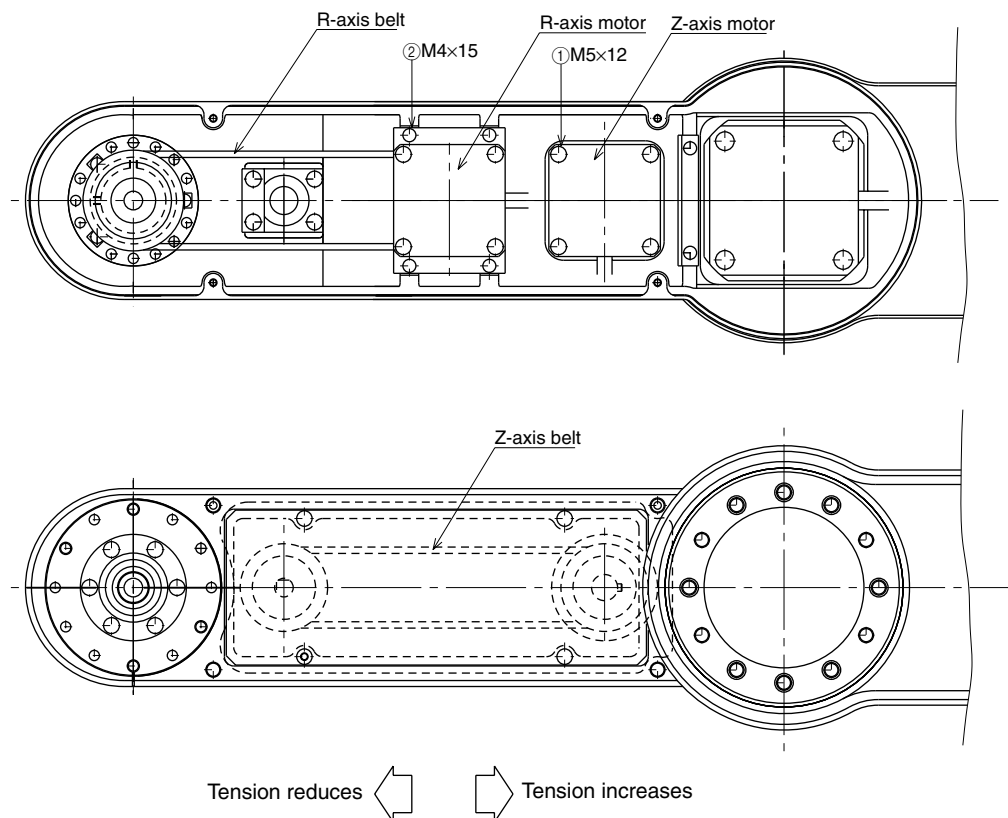

Fig. 4-14 R6YXC700, R6YXC800, R6YXC1000
1. Loosen the bolt 1 shown in Fig. 4-14.
1. Loosen the bolt 2 shown in Fig. 4-14.